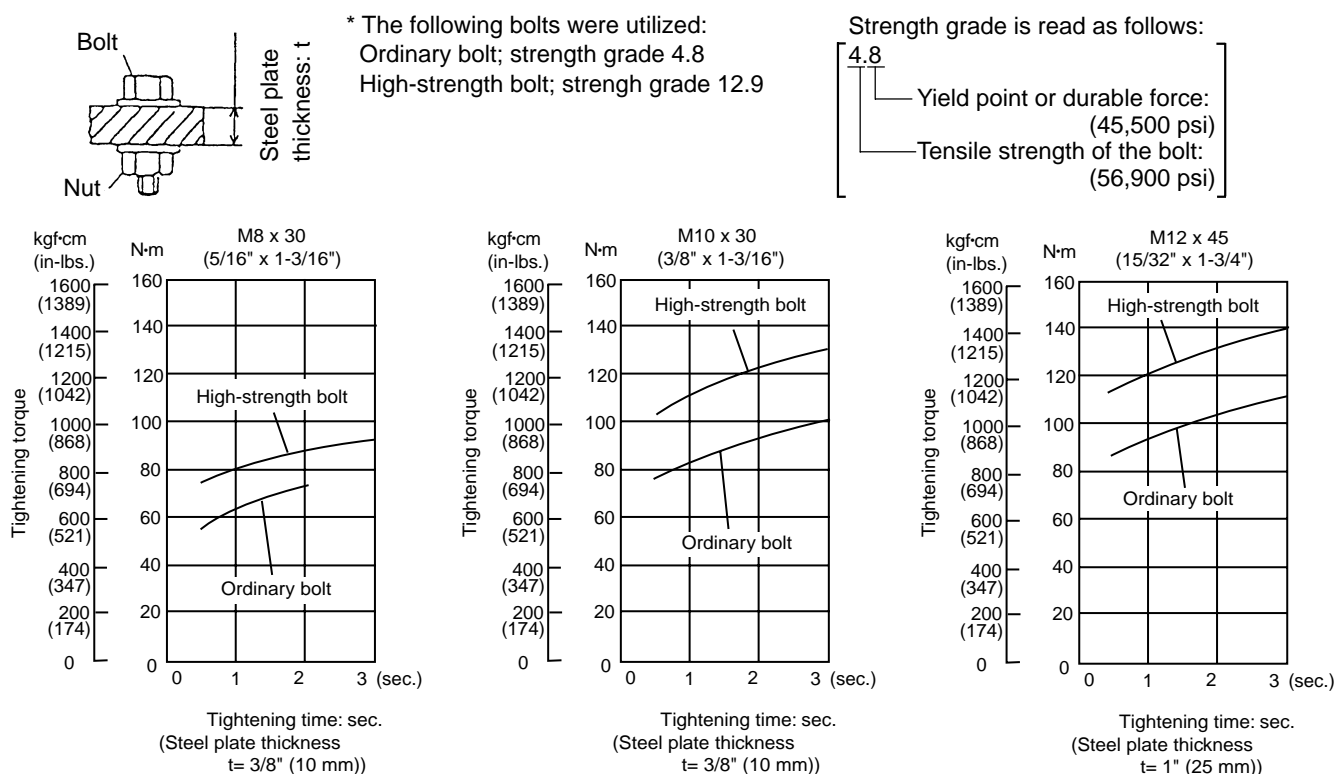

Fig. 4
Fig. 4 shows relationships between time and tightening torque for individual bolt types and sizes. While the data are useful for handy reference, actual tightening torque will vary depending on tightening conditions and other variables. For details, please refer to Para. 8-3, "Tightening Torque Variation".
- In the tightening conditions shown in Fig. 4, the screws are being tightened directly into a steel plate; accordingly, the torque goes up very abruptly in comparison with ordinary bolt tightening conditions.